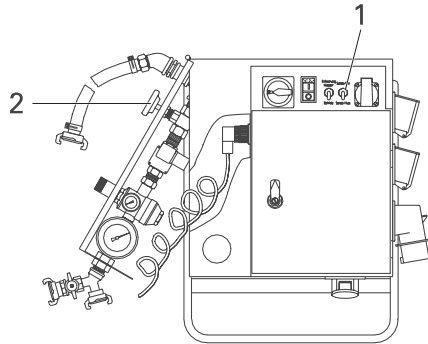

Fig. 12: Switch cabinet MRS
- Set the toggle switch (fig. 12, 1) to "with probe"